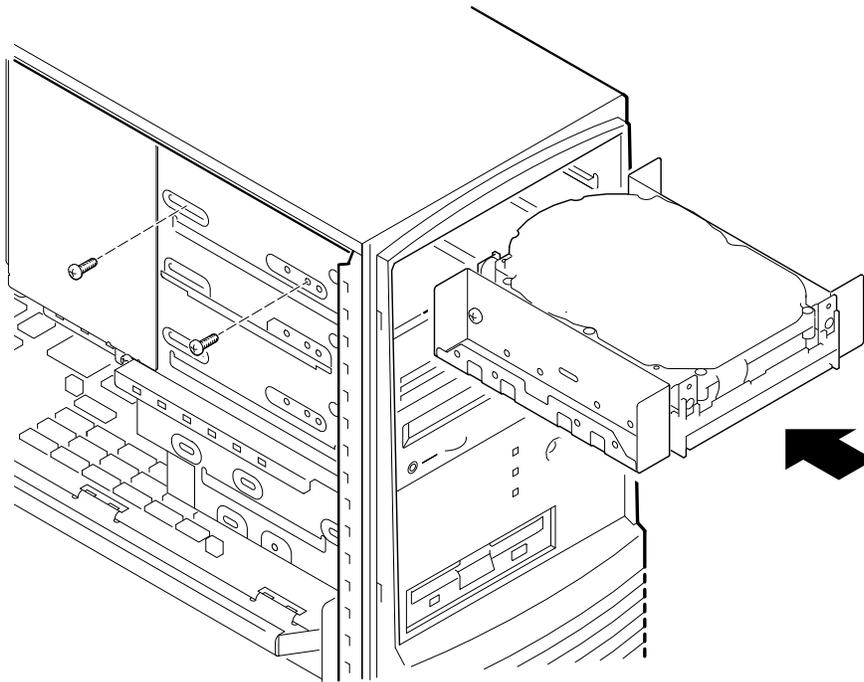

Figure 4-11. Inserting a Device into the Upper Drive Bay
6. Insert the new device into the drive bay from the front (Figure 4-11).